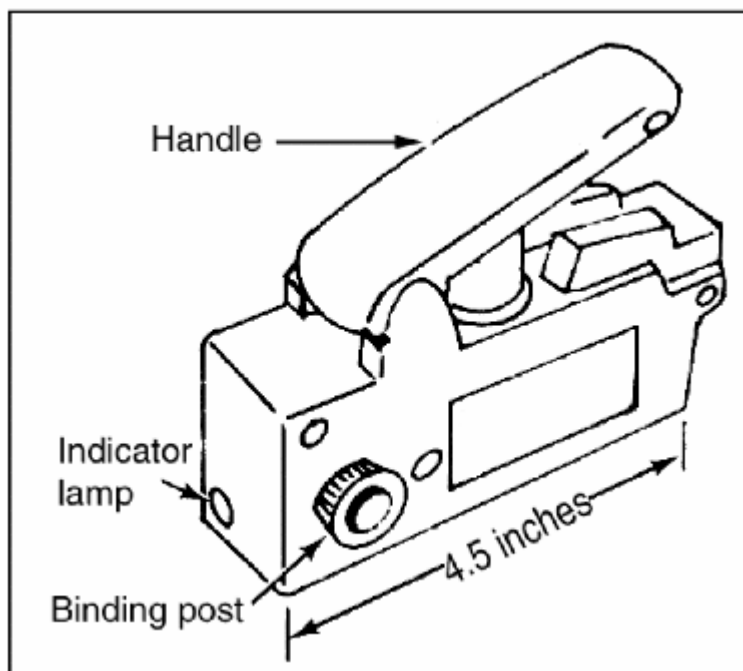

Figure 052-192-1232-2
- b. Connect the field wires to the test-set binding posts (Figure 052-192-1232-2).
- c. Squeeze the handle (Figure 052-192-1232-2).